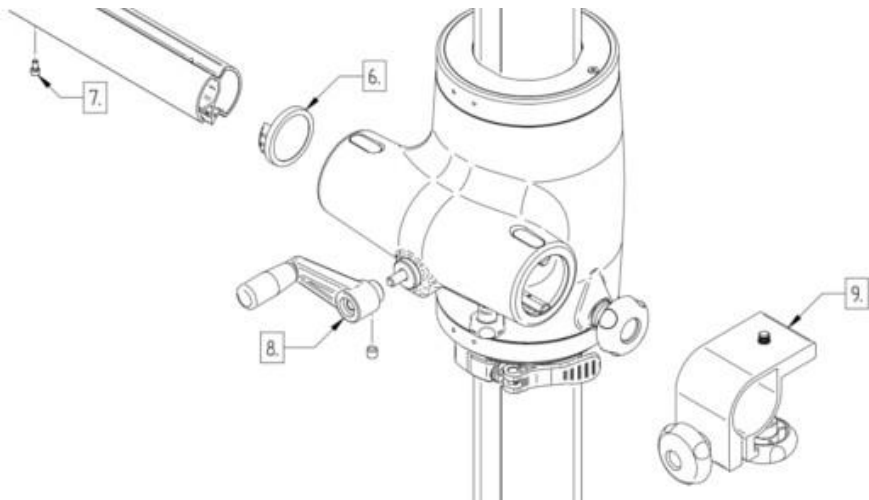

Figure 3. Mounting the cross-arm
4. Mounting the column to the base (fig.3).
5. Mounting the cross arm (fig.3).